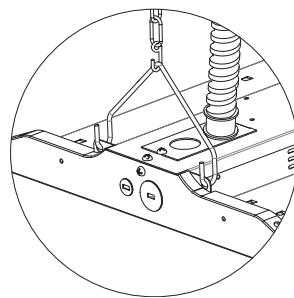

Fig. A-2
2. Install both V-hooks onto each side of the fixture body (**Figure A-2**)